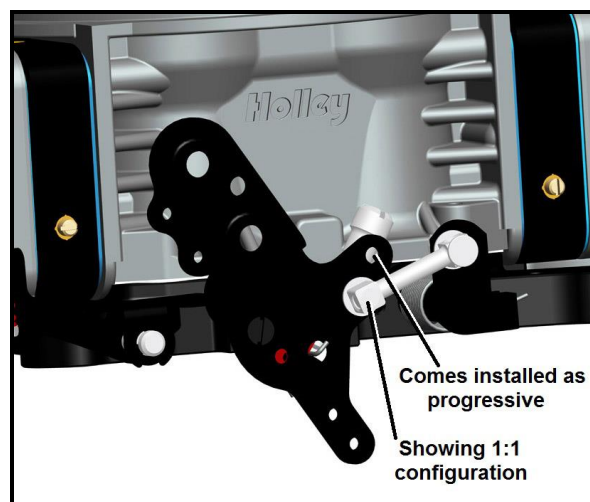

Figure 9
3. For 1:1 operation, the link will need to be installed into the hole of the throttle lever closest to the throttle shaft (see Figure 9).